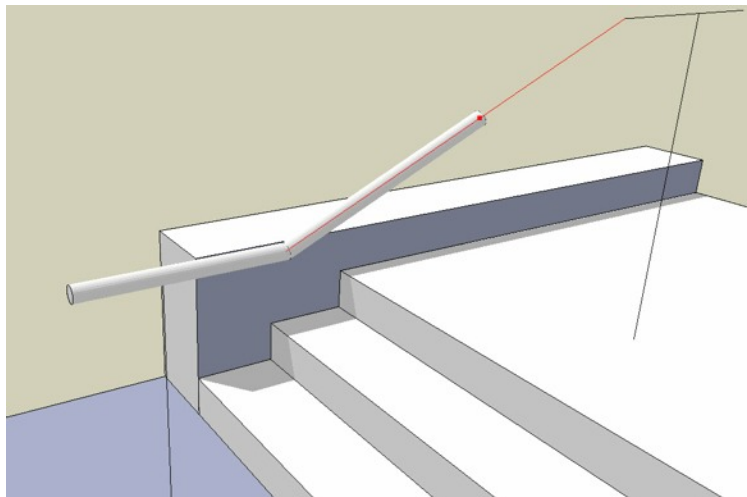

Figure 76. The Follow Me tool extruding the circle along the handrail.
- Using the Follow Me tool select the face of the circle and then move the cursor along the line of the handrail which will turn red as shown in Figure 76.